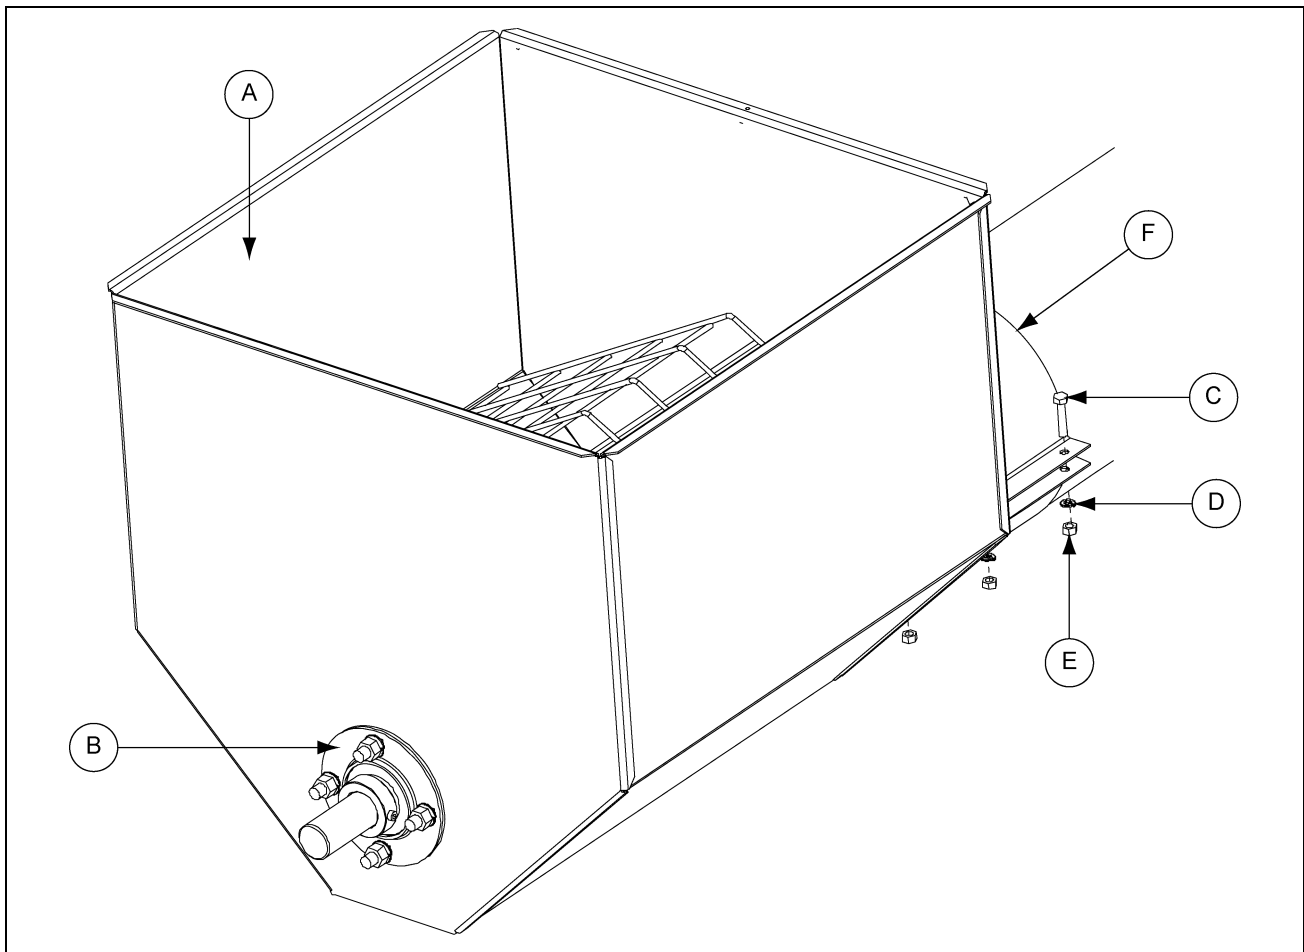

Figure 4X
- Slide the hopper (A) onto the tube and align the end of the flight approximately 12 mm from the surface of the bearing (B). With the proper distance set, install the proper bolt (C), lock washer (D) and nut (E) and secure the hopper (A) to the tube. *(See Chart below and Figure 4X.)*